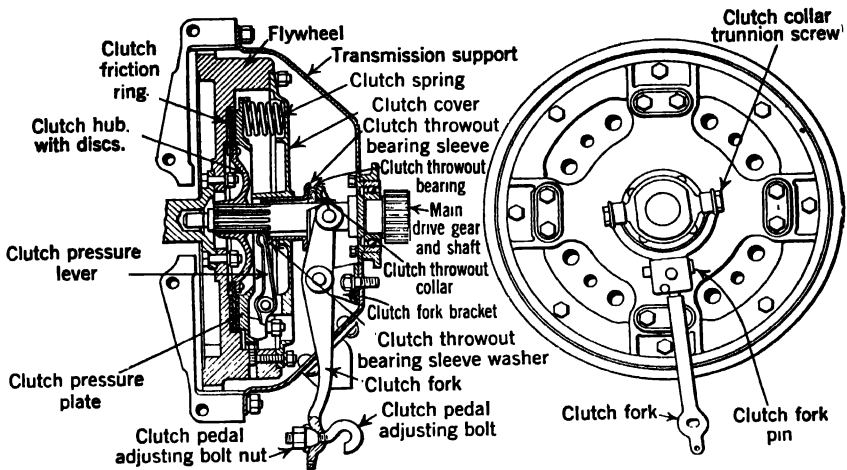

FIG. 40.—Single-disk Dry-plate Clutch. (Chevrolet)
3. Single-plate Clutch (Fig. 40).